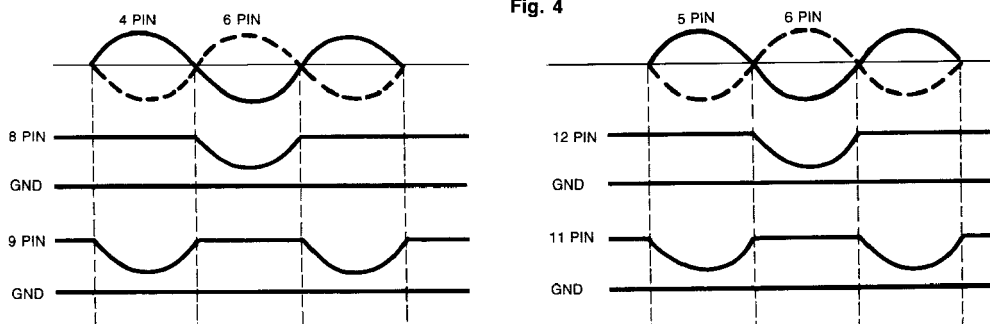

Fig. 5
- The signal generated from a hall device is amplified by a hall amplifier, the gain of which can be varied by Pin 2 input current (speed control input). The signal passes through the rotation direction switching circuit and is supplied to the driver circuit. Since the gain of the driver circuit is constant, the output current is determined by the hall input voltage level and Pin 2 input current. Therefore, the motor rotation can be held constant by detecting it with FG, F-I converting this FG output, and feedbacking to Pin 2. (Fig. 5)